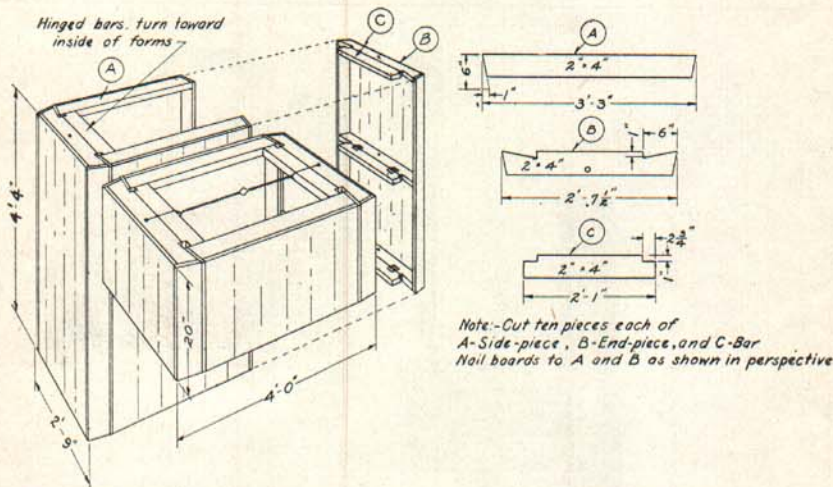

Fig. 9.—“Take down” forms are convenient when several tanks are to be built.
Forms may be made of any ordinary lumber. If, however, the forms are to be used several times, they can be made after the plan shown in Figure 9. These forms can be removed very easily without damage. For the "take-down" forms the following material will be needed:*
- 5 pieces 2" x 4" x 16' dressed four sides (cut 2 pieces of a, b, c, from each 2" x 4" x 16'). Fig. 9.
The tank forms should be left in place long enough for the concrete to set. In removing forms, care should be used to prevent cracking the concrete. The "take down" forms shown in Figure 9 can be removed by turning the hinged bars until they are free. The side and end forms can be loosened by forcing them inward and then lifting out.